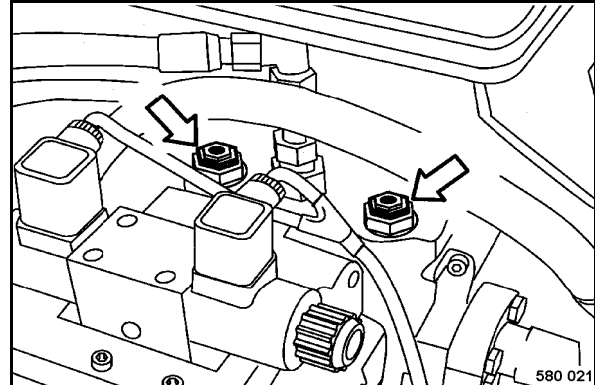

Fig. 109
- Slacken the middle hexagon on both valves (Fig. 109) for approx. 2 to 3 turns.